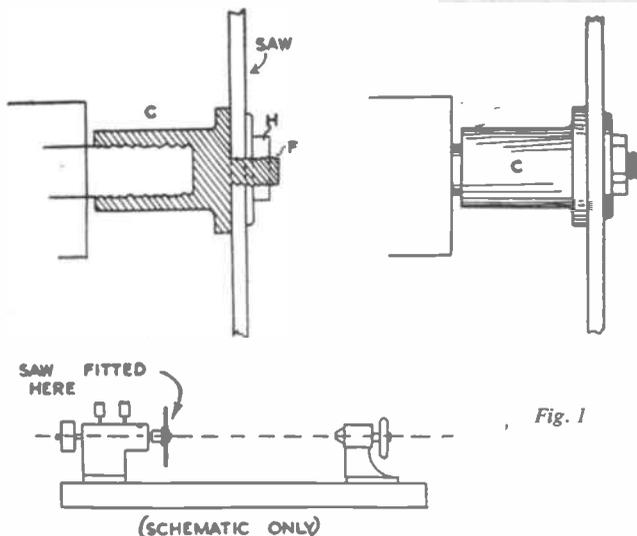

Fig. 1
They are fixed in a jiffy, do not look unsightly and can be used over and over again. Made from galvanized iron wire they do not rust and can be made quickly and easily. Wind the wire round a piece of dowel rod or similar former, slide off and cut up, leaving a slight overlap (Fig. 1).
The saw itself (8ins. diam.) is fastened to the lathe spindle, and Fig. 1 shows how it is done by the adapter (E). Made of brass, this is bored and internally threaded at the one end to go on the externally threaded spindle, while at the other it is turned down to a short length of small diameter (F) which just goes through the centre hole of the saw. This length is also threaded to take the nut (H), which, with the washer shown, keeps the disc tightly in place.